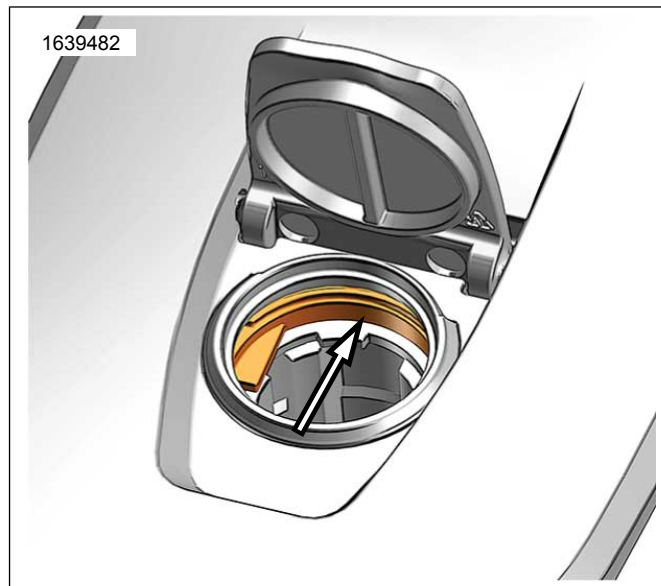

Figure 7. Cap Latch Slider
1. See Figure 7. If cap is latched before lock cylinder is installed, use screwdriver or other tool to press slider inside cap's lock hole while pulling cap up.